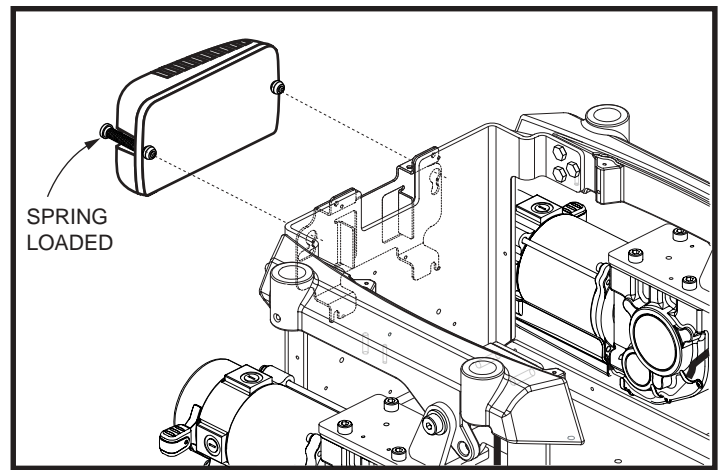

Figure 7. Disconnecting Power Module (2)
9. Disconnect the power module (2) from the module mounting bracket. **See figure 7.**